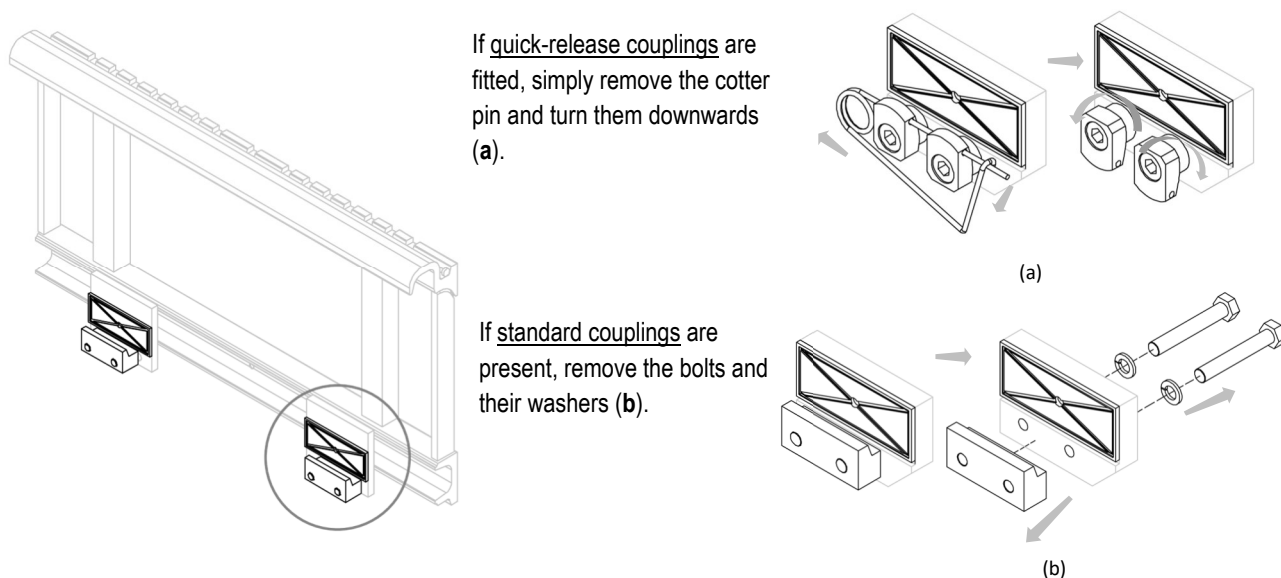

Figure 8
3. Remove the lower couplings from the equipment and grease the sliding gibs/rollers (see *Figure 8*).